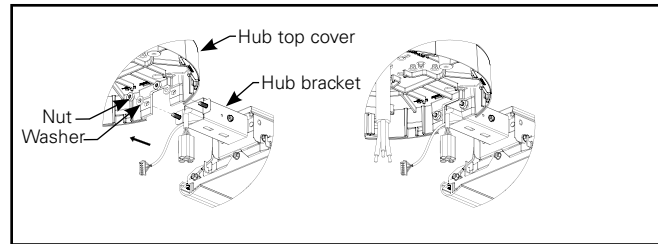

Figure 7.
- 6. Secure hub top cover with the hub bracket of fixture assembly with nuts provided (Figure 7). Ensure that fixture top surface and hub top surface are in line and level.